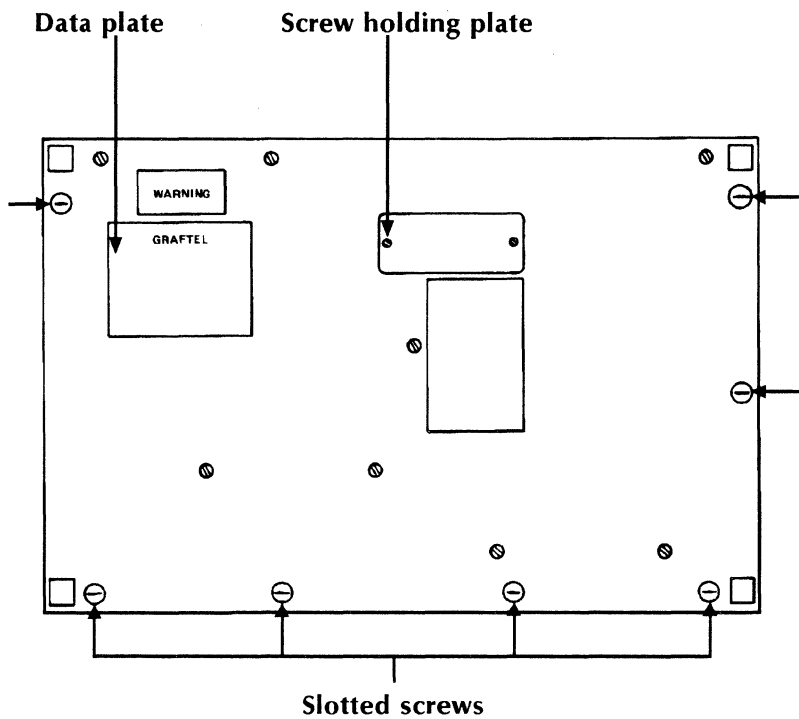
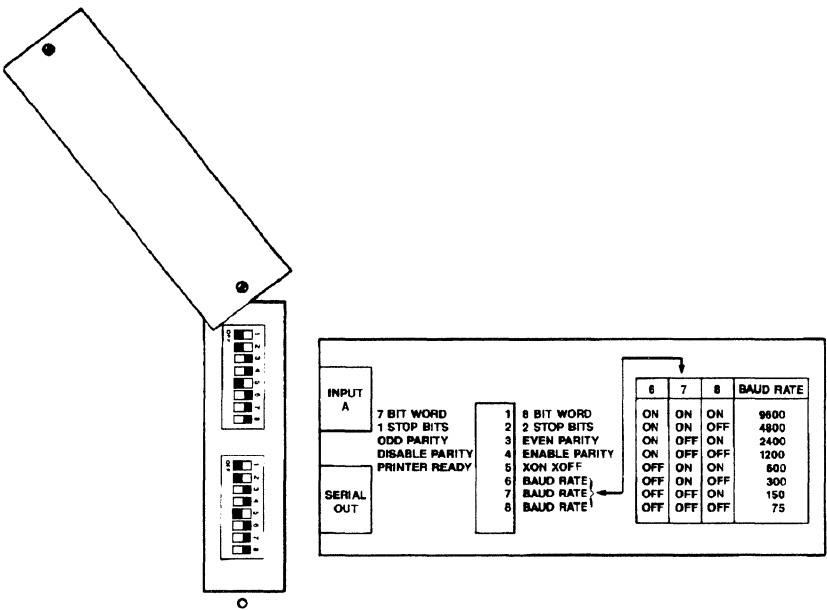

Figure 6-12 Bottom of ISD unit
Figure 6-13 Switchbank plate on the bottom of ISD
There are two models of the 280 ISD available: a serial model and a parallel model. The particular model is distinguished by the Xerox Product Code, located on the box and on the data plate on the bottom of the ISD (see Figure 6-12).
3. Using the slotted 1/4" screwdriver, remove one of the screws from the plate located in the center and towards the back of the unit. Then, slide the plate so the two switchbanks are accessible. See Figure 6-12 and Figure 6-13.